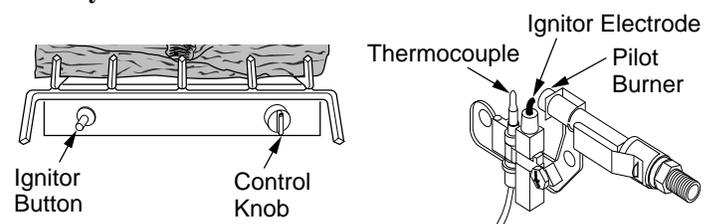

Figure 25 - Control Knob and Figure 26 - Pilot Ignitor Button Location
4. Wait five (5) minutes to clear out any gas. Then smell for gas, including near the floor. If you smell gas, **STOP!** Follow "B" in the safety information, column 1. If you don't smell gas, go to the next step.
5. Turn control knob counterclockwise  to the PILOT position. Press in control knob for five (5) seconds (see Figure 25).
**Note:** If pilot goes out, repeat steps 3 through 7. This heater has a safety interlock system. Wait one (1) minute for system to reset before lighting pilot again.